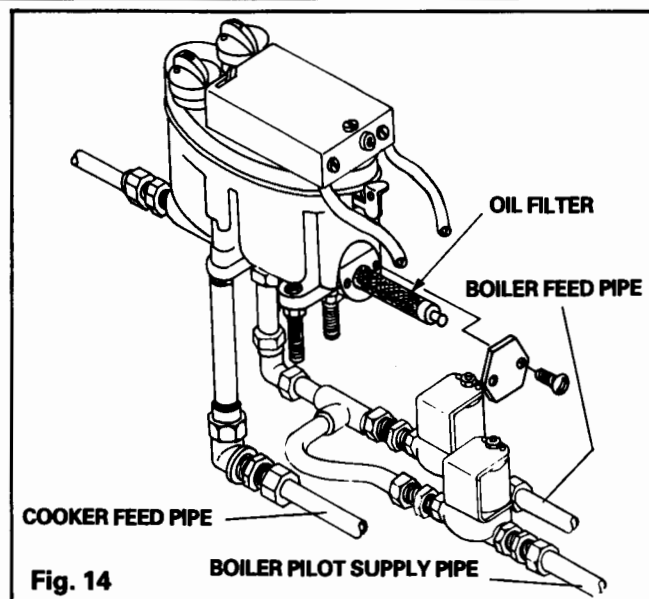

Fig. 14
6. Connect the oil feed pipe from the boiler and cooker burners to the respective outlet fittings on the underside of the oil control valve – See Fig. 14.
1. Remove oil filter within oil control valve (See Fig. 14) and connect oil flow gauge assembly.